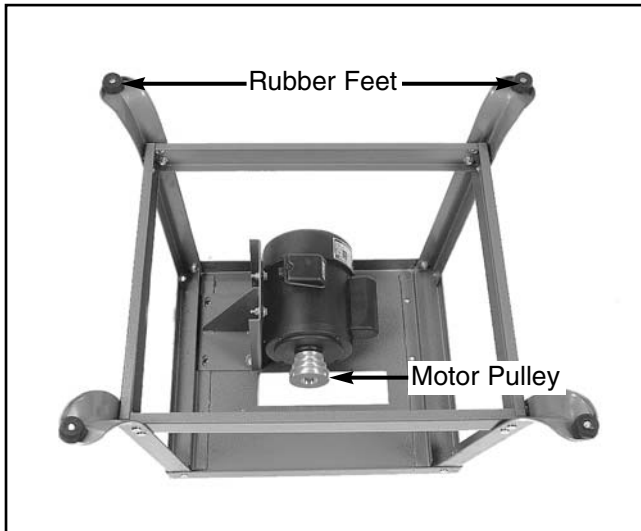

Figure 5. Legs and braces attached to top.
- Attach the four (4) legs to the inside of the stand top and the four horizontal braces to the inside of the legs as shown in **Figure 5**. Use the $\frac{5}{16}$ "-18 x $\frac{5}{8}$ " carriage bolts, $\frac{5}{16}$ "-18 nuts, and $\frac{5}{16}$ " washers provided. The two shorter braces are slightly wider than the longer braces. When attaching the braces to the legs, the longer braces rest inside the two flanges of the shorter braces. The square holes in the legs are angled to accommodate the angle of the legs.